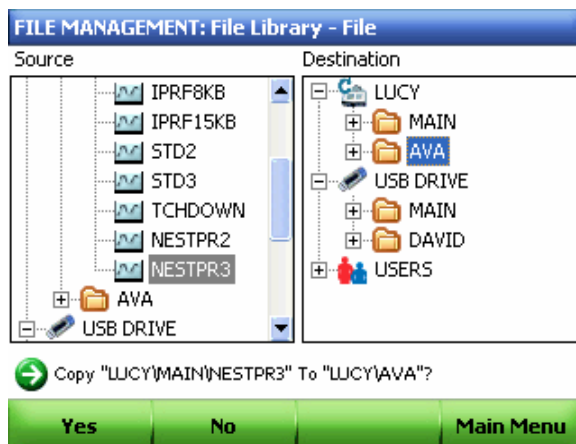

Figure 90. Select the destination folder.
- Using the up and down arrow keys, select the destination folder (Figure 90).